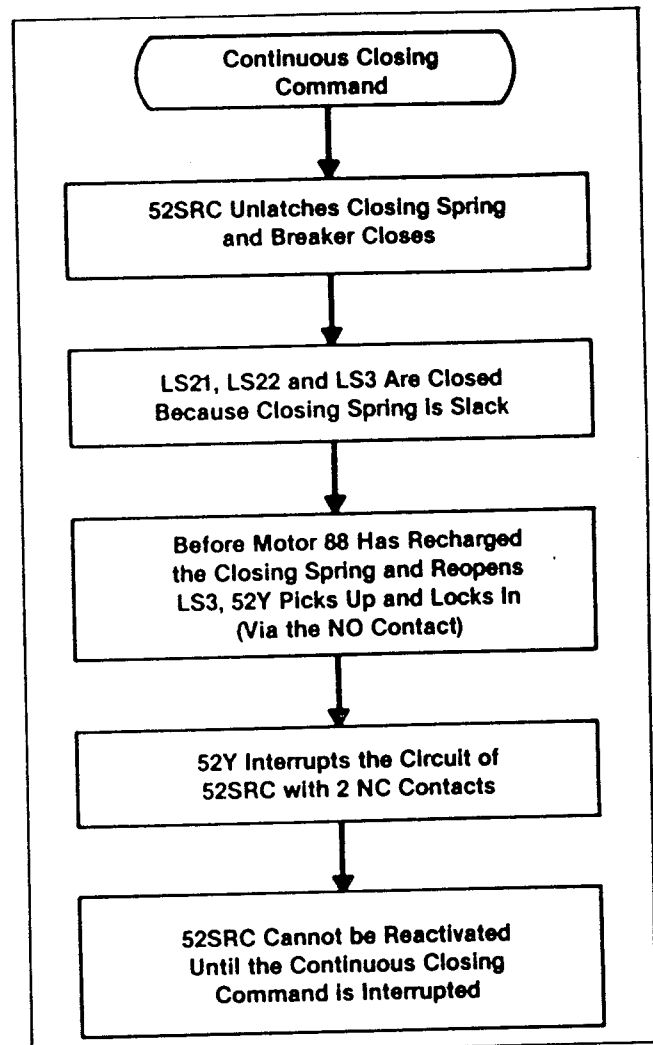

Figure 17. Complete Anti-Pump Sequence
As a special feature the breaker can be fitted with a type Q-10 auxiliary switch with (10) stages. Each stage can be adjusted to be a 52a contact or 52b contact. Refer to Figure 17 for features of this switch.